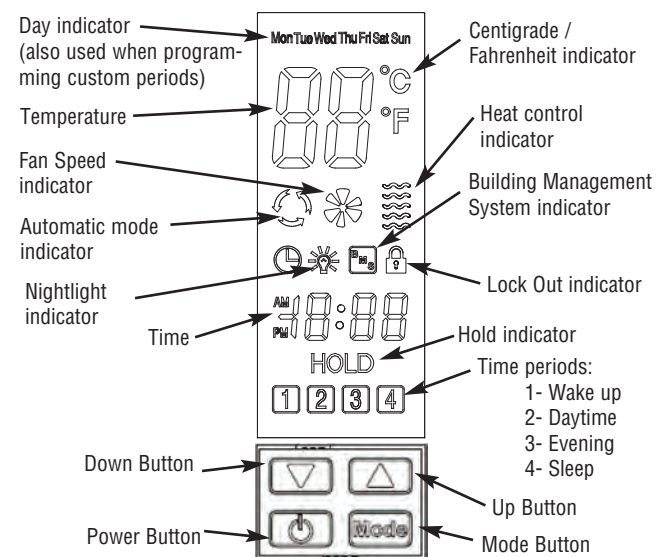

Figure 6 - Control Panel
1. Switch the power on at the main circuit panel. When the heater is first powered up the buzzer beeps for one second and displays all indicators in high luminance and the POWER button in half blue luminance for 3 seconds, then the unit will turn OFF. When OFF, only the POWER button illuminates in orange color in half luminance and all other buttons and icons will be OFF. When OFF, if the POWER button is touched, all 4 buttons will illuminate indicating the heater is ON and the control panel is powered up. See Figure 6 for Control Panel layout details.